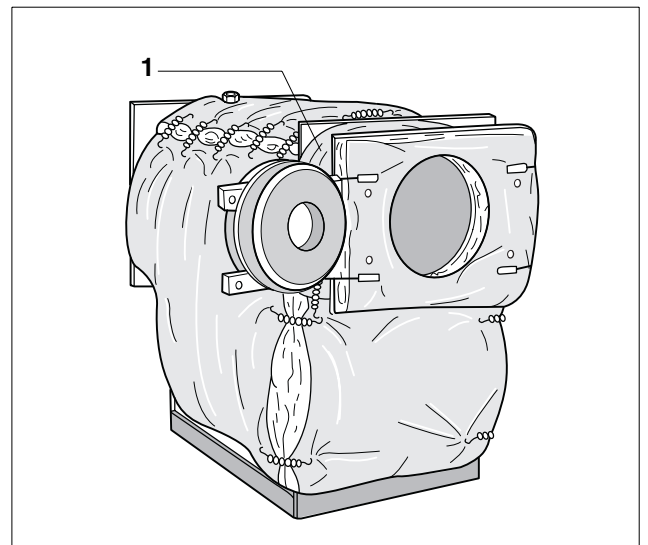

Fig. 5 Installation and securing of the insulation blankets
- Wrap the insulation blanket over the top of the boiler body, overlap and secure with 5 springs (Fig. 5).
- Install the lower front insulation piece and secure with 2 springs on left and right side to the wrap-around insulation blanket (Fig. 5).
- Wrap narrow insulation piece around top of boiler chamber and secure with a spring on left and right sides to the lower front insulation blanket (Fig. 5, **Item. 1**).